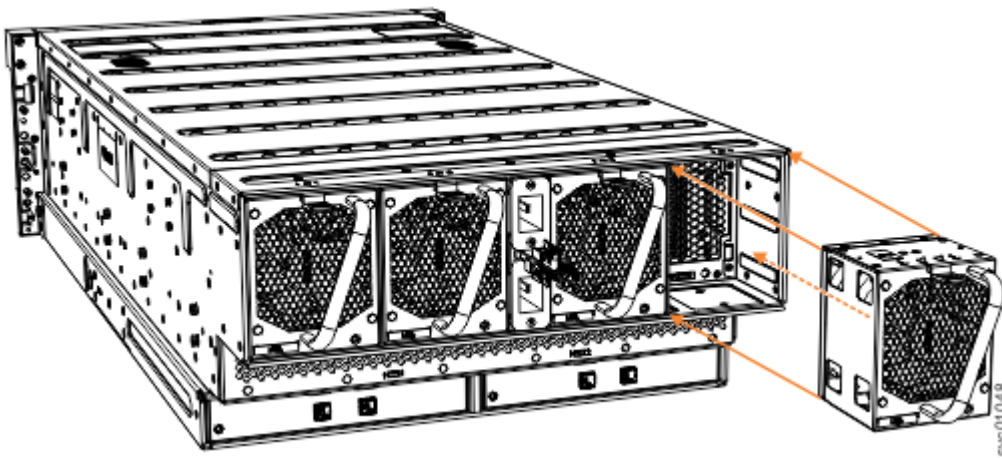

Figure 102. Replace fan module
2. Carefully insert the fan module into the chassis until it clicks in place, as shown in Figure 102 on page 82.